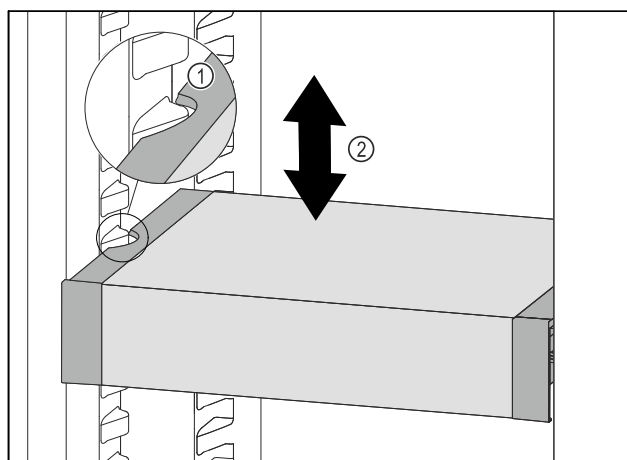

Fig. 55
- Pull VarioSafe forwards until the recesses in the side of the VarioSafe are at the level of the support rib in the refrigerator compartment. Fig. 55 (1)
- Move VarioSafe up or down in the refrigerator compartment until the desired height is reached. Fig. 55 (2)